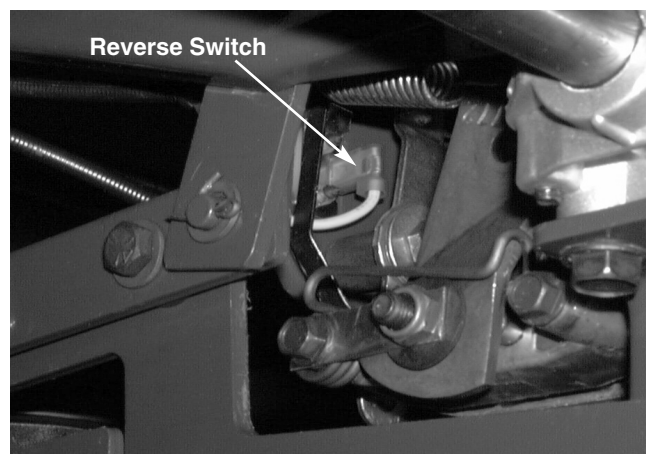

FIGURE 6.
- 20). Locate the reverse switch and disconnect the yellow/black wire and connector. See figure 6.